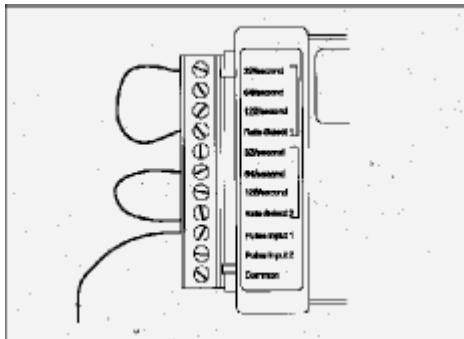

Figure 9-2: SmartReader 9 Test Configuration
4. Connect the three wires to your logger as shown in Figure 9-2 with one wire going from "Rate Select 1" to "32/second," one wire from "Rate Select 2" to "64/second" and the third wire from "Pulse Input 1" left unconnected.